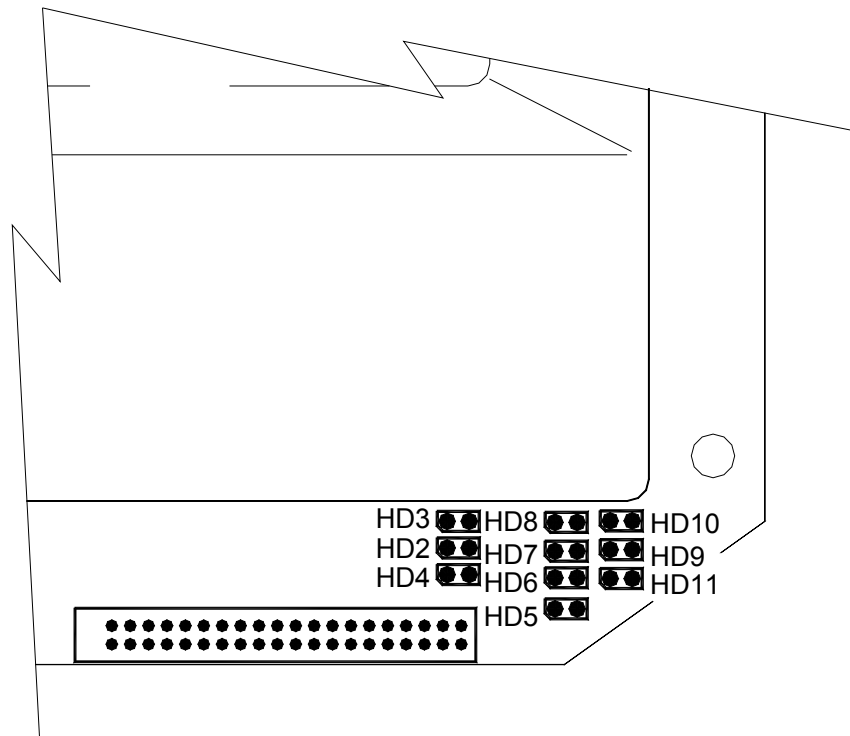

Figure 8 - Option jumper positions
2. Offer the Front Casing to the Rear Casing, with the ribbon cable appropriately folded as shown in figure 8; ensure that the cable will not be trapped when the Front Casing is tightened down. Take care that all folds are made, the ribbon cable can lay flat and that the insulation can not become damaged.